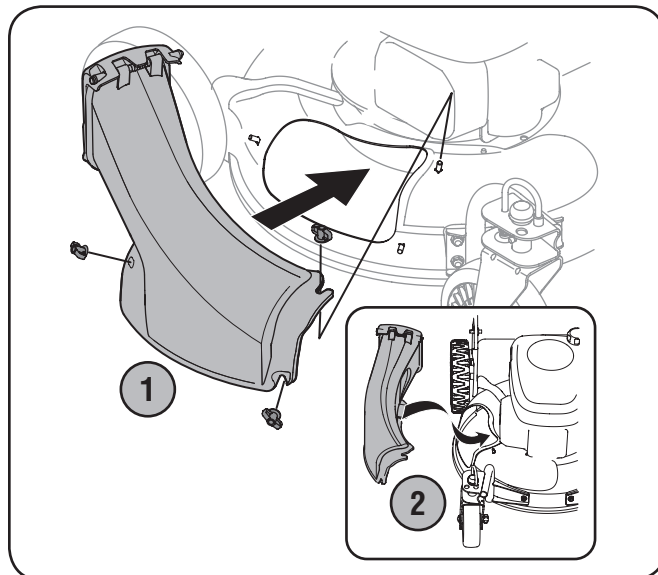

Figure 3-4
1. Remove three wing nuts holding the mulching baffle in place and remove from unit. See Fig. 3-4.